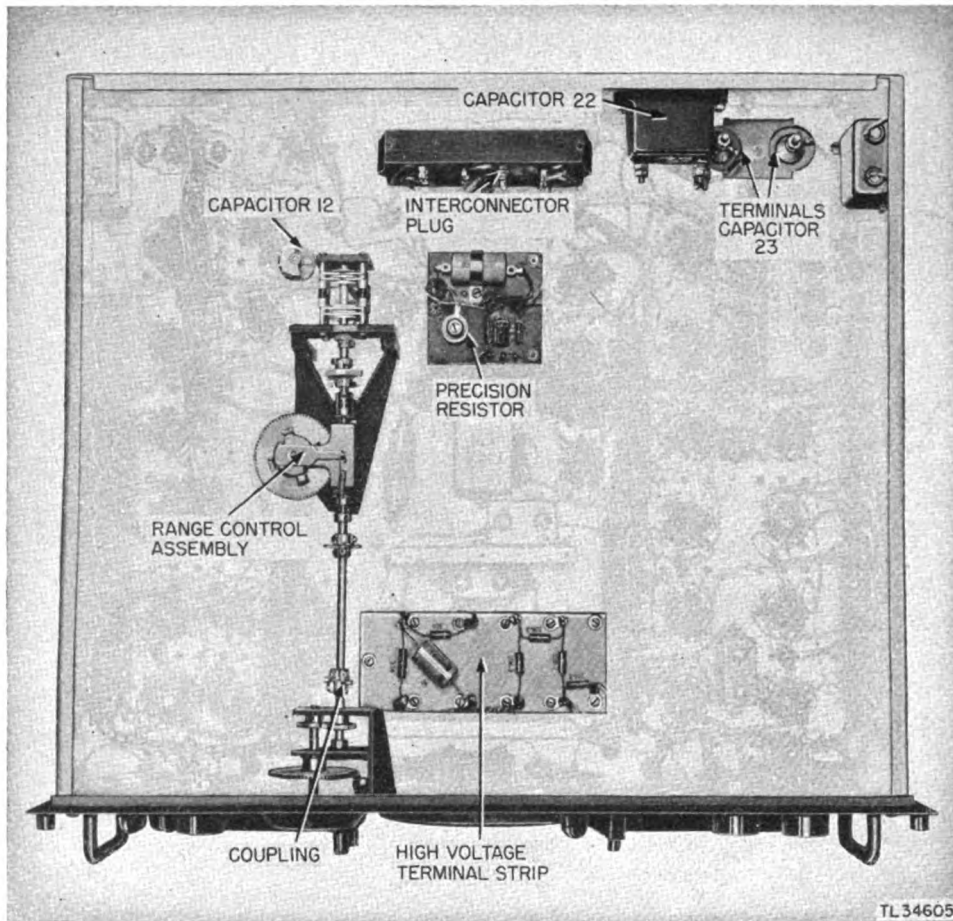

Figure 10. Control unit—bottom view.
a. LOCATION (fig. 10).
(1) The tube sockets for—
a. LOCATION (figs. 10 and 12).
- (1) The gears for—
- (2) Couplings for—
- (3) The variable capacitors for—